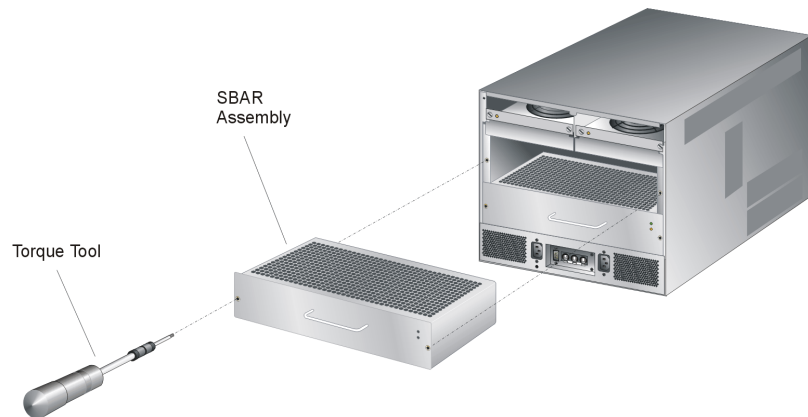

Figure 5-11 SBAR Assembly Removal and Replacement
- a. Insert the tip of the torque tool into either brass Allen screw (right or left side of the assembly). Turn the screw one or two turns counterclockwise (*Figure 5-11*).
3. Orient the SBAR assembly (Figure 5-11). Insert the assembly into the director chassis guide, then push the assembly toward the backplane to engage the connector pins.